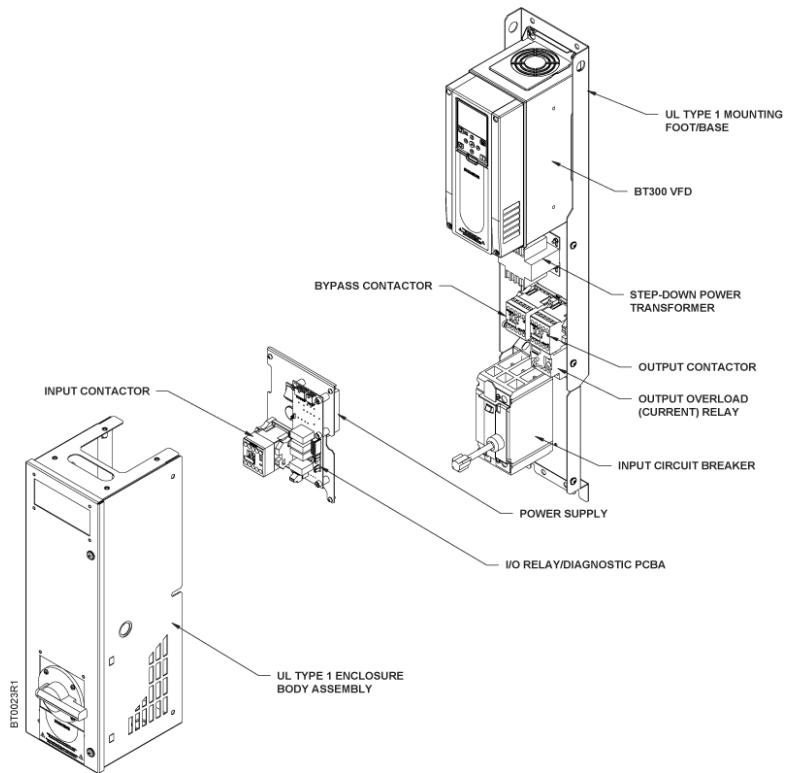

Figure 8. FS4 E-Bypass with Circuit Breaker Components.
- For Electronic Bypass, see Figure 8 through Figure 15.
5. Route motor wiring in conduit, through knockout, and into housing (see Figure 8 through Figure 14).
- See Figure 8 through Figure 15 for Electronic Bypass.